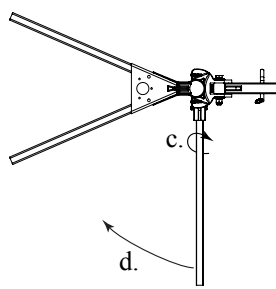

Figure 11b
- Rotate the arm back to the upright position, making sure the top knuckle of the trunnion slides into the top socket and past the top retainer pin - see *Figure 11b*.